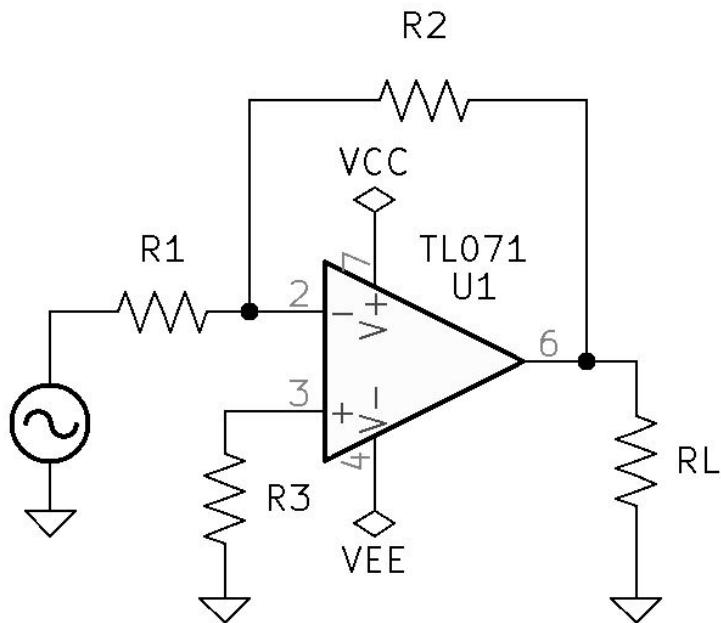

Figure 7.1: Inverting Operational Amplifier Circuit
- See Figure 7.1 *Inverting Operational Amplifier Circuit*.